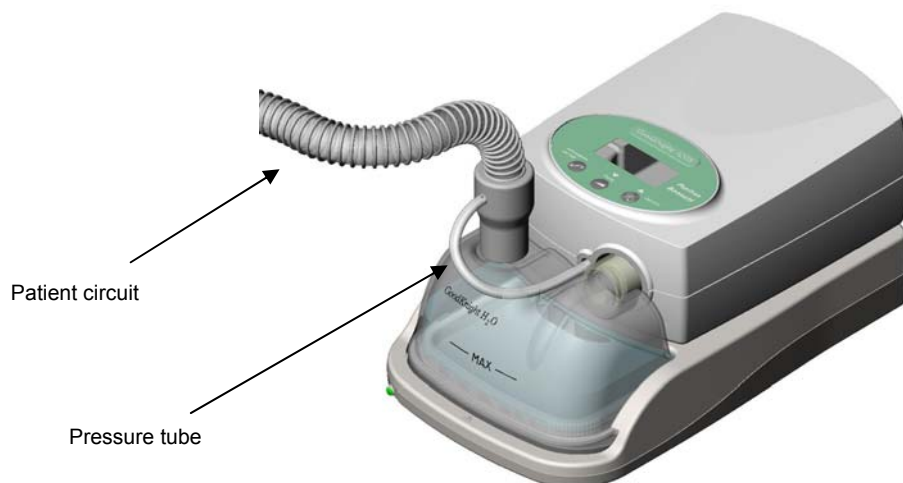

Figure 3 – Connection of the *GoodKnight 420* or *GoodKnight 425* to the *GoodKnight H₂O* heated humidifier
5. Position the *GoodKnight 425* or *GoodKnight 420* device onto the *GoodKnight H₂O* heated humidifier, as shown in Figure 3 on page 5.